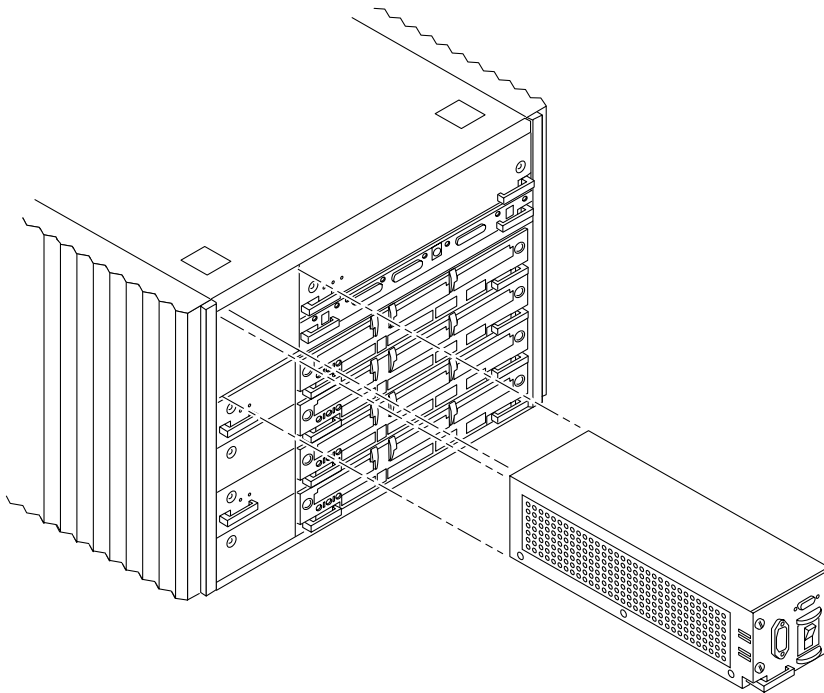

FIGURE E-20 Removing the Fan Tray from the Enterprise 4500 System
2. Locate the fan tray assembly (FIGURE E-20) at the rear of the system.
Viewed from the rear of the system, the fan tray is on the left side of the enclosure. See FIGURE E-20.